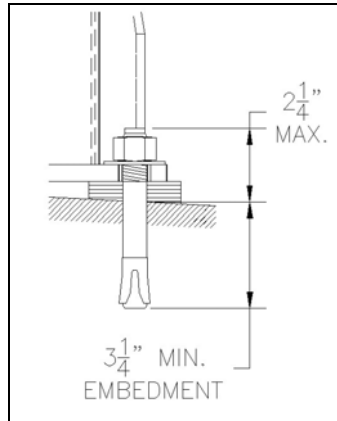

Figure 22. Anchor depth
7. Torque all anchor bolts to 150 ft-lbs. (203 Nm), continually checking that the column is level as you proceed. If anchor bolts do not tighten to 150 ft-lbs. OR project more than $2\frac{1}{4}$ " above the concrete surface (**Figure 22**), the concrete should be replaced by an appropriate concrete pad. (*Consult Product Manufacturer / Supplier for further details*).